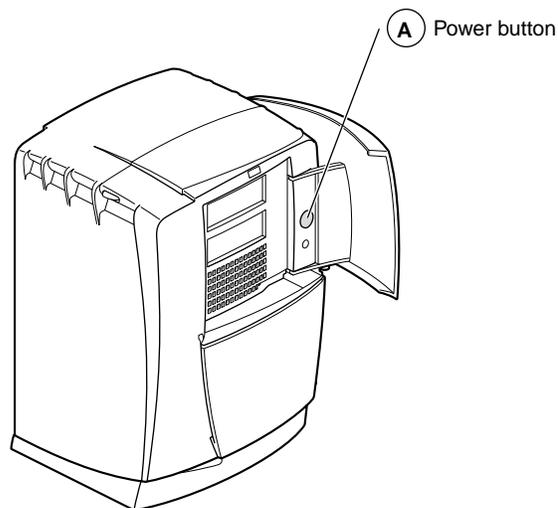

Figure 1-23 Powering Off the Octane2 Workstation
2. Press the power button, as shown in Figure 1-23.